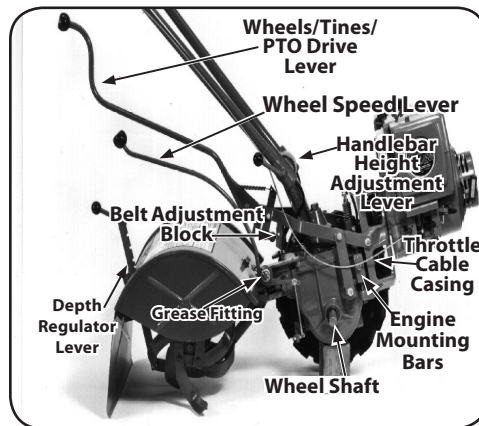

Figure 5-10
1. Oil the wheel shaft between the wheel hubs and the transmission housing. See Figure 5-10.
2. Oil all pivoting and connecting points on the Wheels/Tines/PTO Drive Lever and the Wheel Speed Lever. See Figure 5-10.
3. Grease the face of the belt adjustment block. See Figure 5-10.
4. Oil the Depth Regulator Lever, including the spring in the mounting bracket. See Figure 5-10.
5. Oil the full length of the throttle cable casing. Oil threads on Handlebar Height Adjustment Lever. See Figure 5-10.
6. Grease the left- and right-side engine mounting bars at the top, middle and bottom. See Figure 5-10.
7. Grease the zerk grease fitting located on the pivot point at the end of the Wheel Speed Lever. See Figure 5-10. If the Wheel Speed Lever has a grease fitting on the pivot assembly, apply 2-to-3 strokes of multipurpose grease at beginning and end of tilling season.